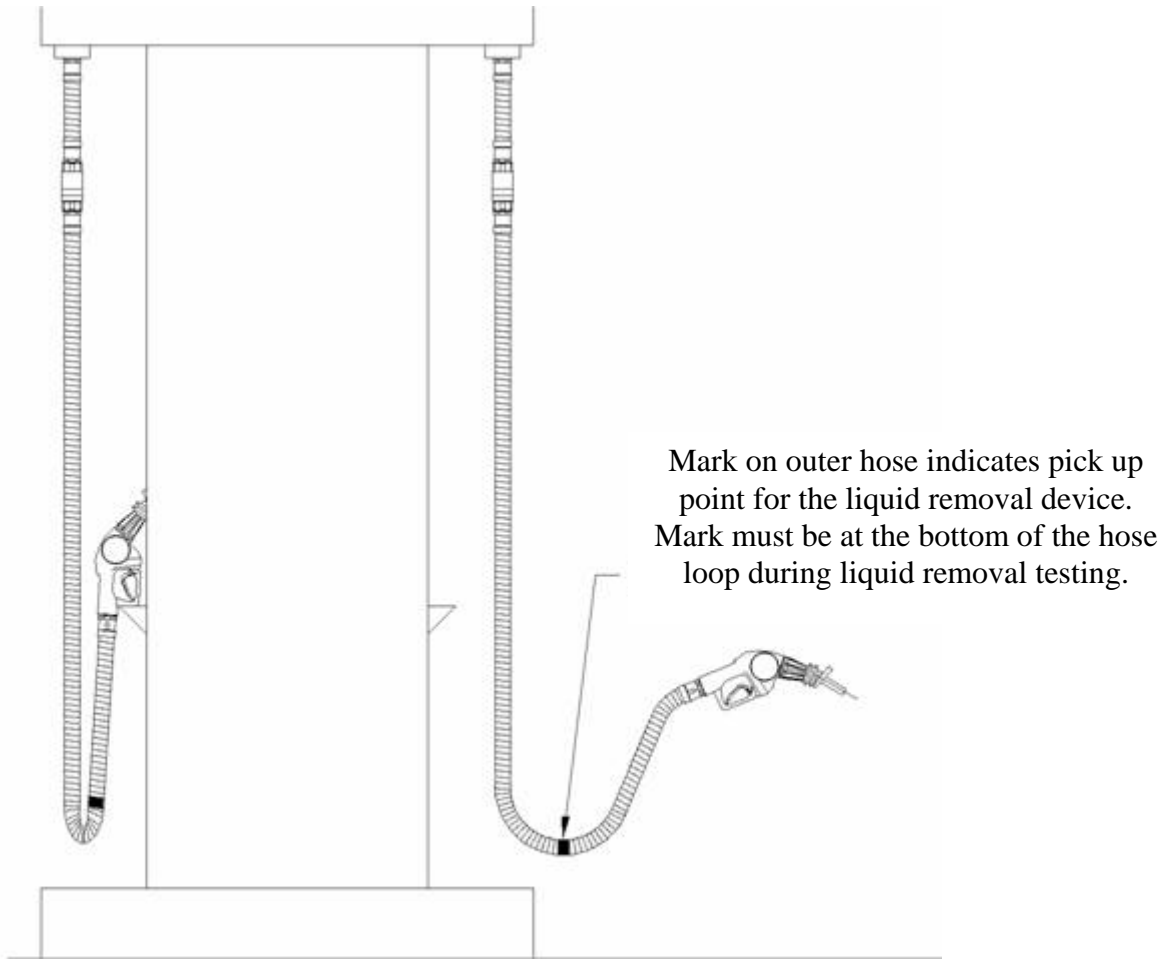

FIGURE 2
- 5.1. Nozzle Spout Plug: Use VST's spout plug, P/N VST-STP-100 (Figure 2).
- 6.2 Remove the nozzle from the dispenser. **Do not activate dispenser!** Install VST's spout plug, P/N VST-STP-100 in the tip of the spout (Figure 2). Carefully tilt the spout into the funnel/graduated cylinder assembly.
- 7.2 Remove the nozzle from the dispenser. **Do not activate dispenser!** Install VST's spout plug, P/N VST-STP-100 in the tip of the spout as shown in Figure 2. Position the nozzle upright so that the spout is in a vertical position.